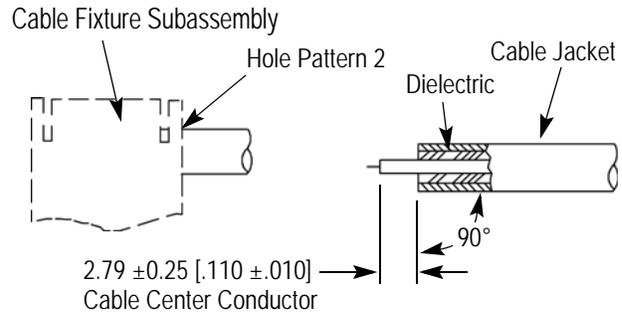

Figure 2
1. Insert the squared end of the cable into Hole Pattern 2 of the cable fixture subassembly. Place a saw in the saw slot and while rotating the cable, cut through the cable jacket and into, but not through, the dielectric. Refer to Figure 2.
2. Remove the cable from the cable fixture subassembly, and continue cutting the dielectric with a cutting blade. Remove the cut jacket and dielectric from the cable to expose the center conductor. Trim the center conductor to the dimension shown in Figure 2.